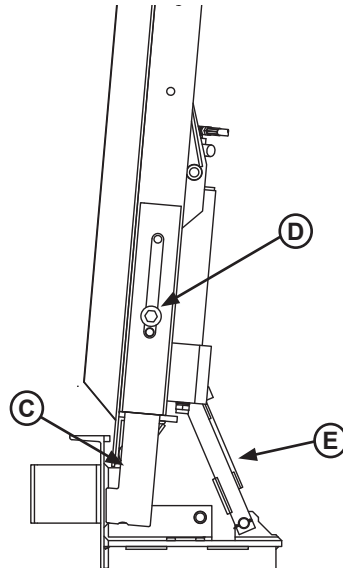

Figure 25
When maintenance is to be performed on the dock leveler, place the maintenance props (C) in their service/down position with hardware (D) tightened by wrench. Ensure the storage prop (E) is locked out with the prop pin and clip (F). See Figures 25 and 26. The lip may fold down if the platform has rested on the maintenance props.